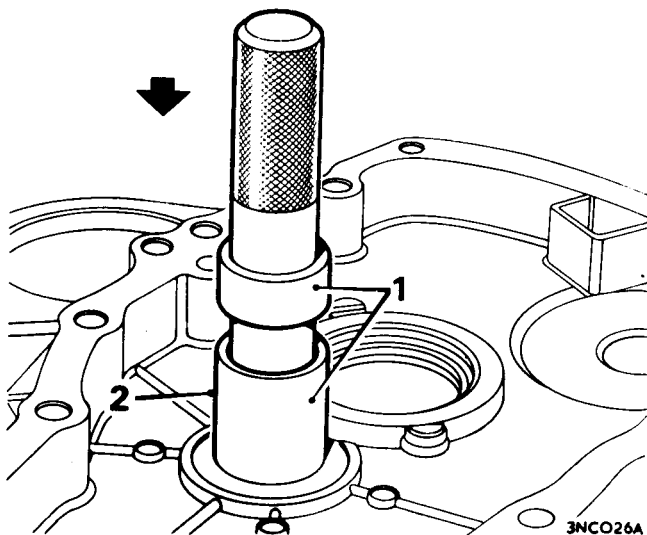

Fig. F.26
51. Use tool 18G 1126 with its outer sleeve and drift the idler gear bearing into the housing to the depth governed by the outer sleeve of the tool, Fig. F.26.